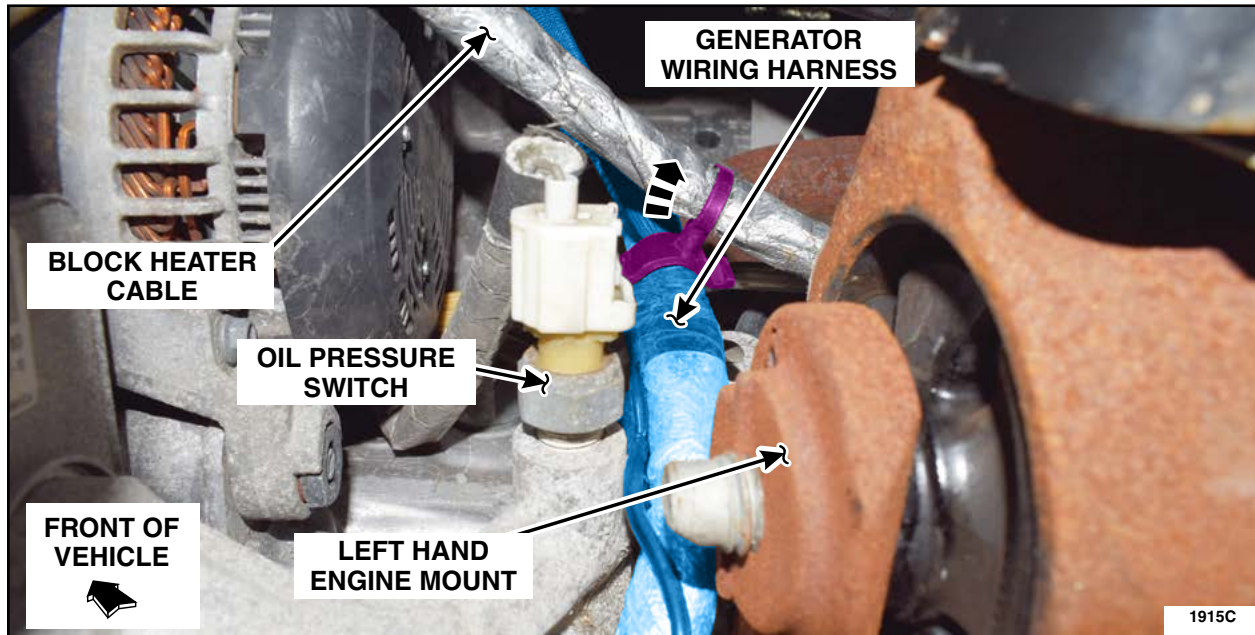

FIGURE 6
6. Release the block heater cable, small C-clip, from the generator wiring harness. See Figure 6.
26. Attach the small C-clip to the generator wiring harness. See Figure 6.